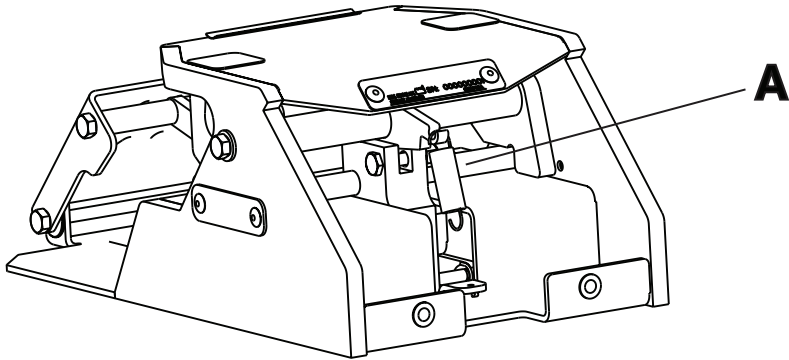

Figure 17 – Fastener lubrication
2. Spray **Tri-Flow™** with **Teflon®** lubricant (6082-199-012) onto the area indicated below (A) (Figure 17).